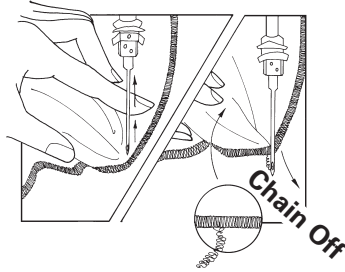

Fig. 22-5
4. Raise the presser foot and gently pull the fabric behind the needle. Chain off about 4 inches (10 cm) without catching the fabric. (Fig. 22-5)